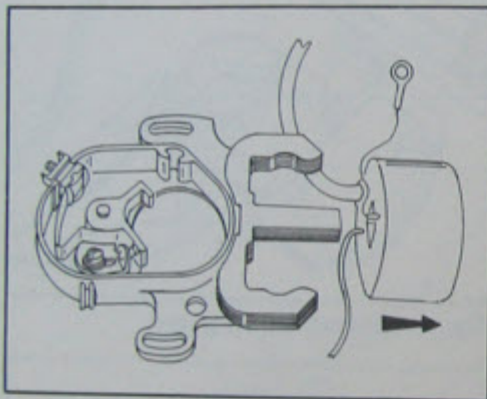

Fig. 22 Removing coil
- Completely detach coil (Fig. 22). Reverse the procedure for refitting.